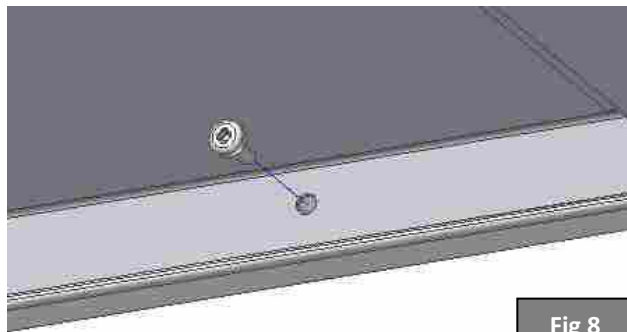

Fig 8
STEP 4 – Tighten all the screws and mount the 2 last middle **M5x12 DIN785 Phillips screws** (Fig. 8).